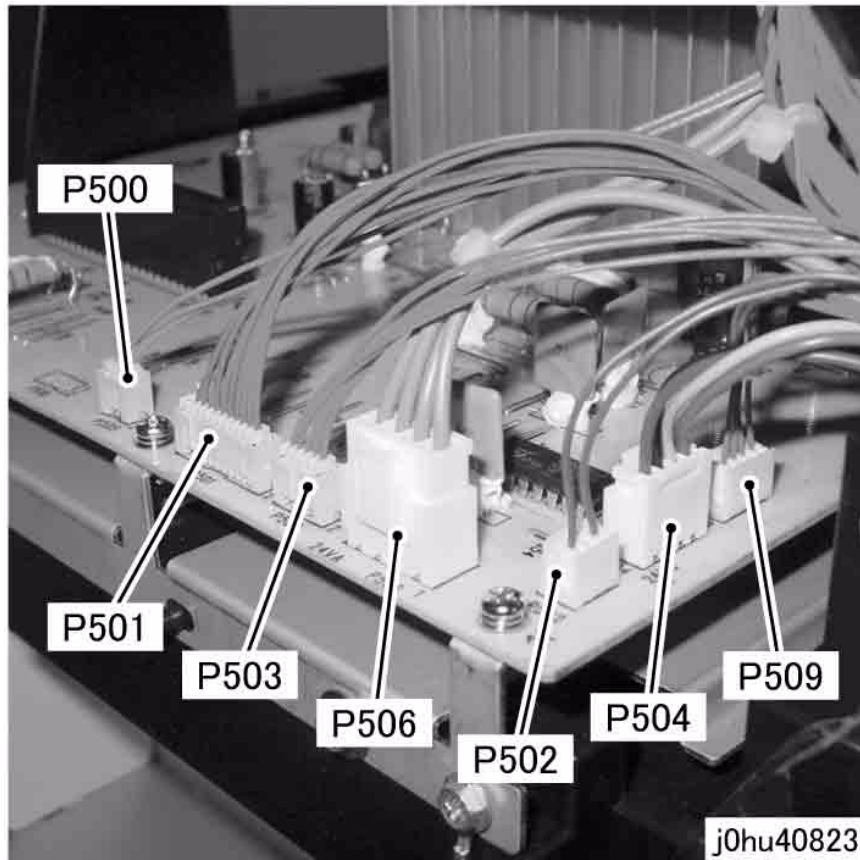

Figure 5 Disconnect Connectors
8. Disconnect the connectors (7) (Figure 5).